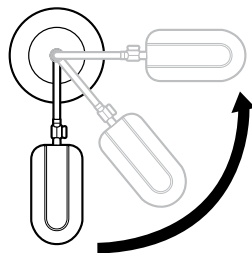

Fig. 6
2. To rotate the lamp head right or left, loosen height adjusting collar, swing lamp arm to desired position. Tighten collar. Lamp arm rotates a full 360° (Fig. 6).